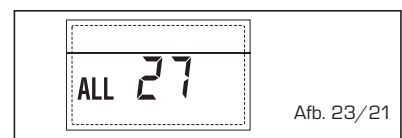

Afb. 23/20
- STORING COHERENTIE APPLICATIE SOLAR "ALL 27" (Afb. 23/21)